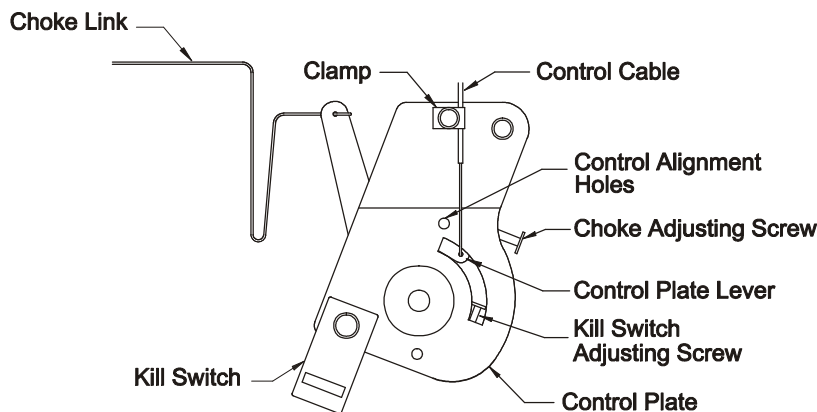

FIGURE 3
- c) Loosen clamp on engine control plate. (See Figure 3). Attach inner wire of the throttle cable to the control plate lever and position cable under clamp, **do not** tighten clamp.